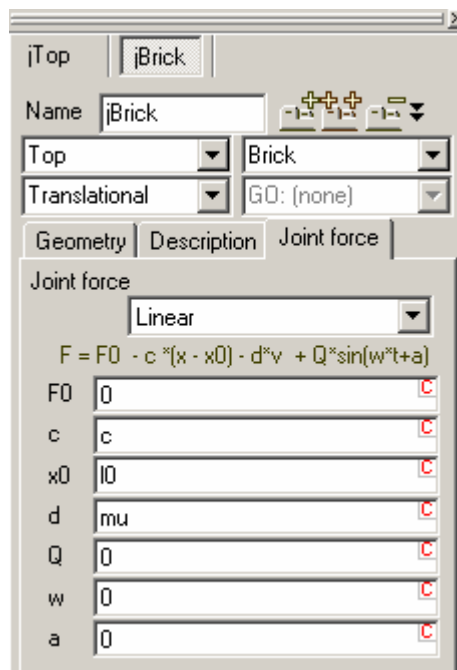

Figure 2.4. Elastic and damping joint forces
4. In the **c** field input **c** (stiffness coefficient), in the **x0** field input **l0** and set **d** to **mu**, see Fig. 2.4. Press **Enter**. Set values of parameters as follows: **c = 250**, **l0 = 0.4**, **mu=5**.